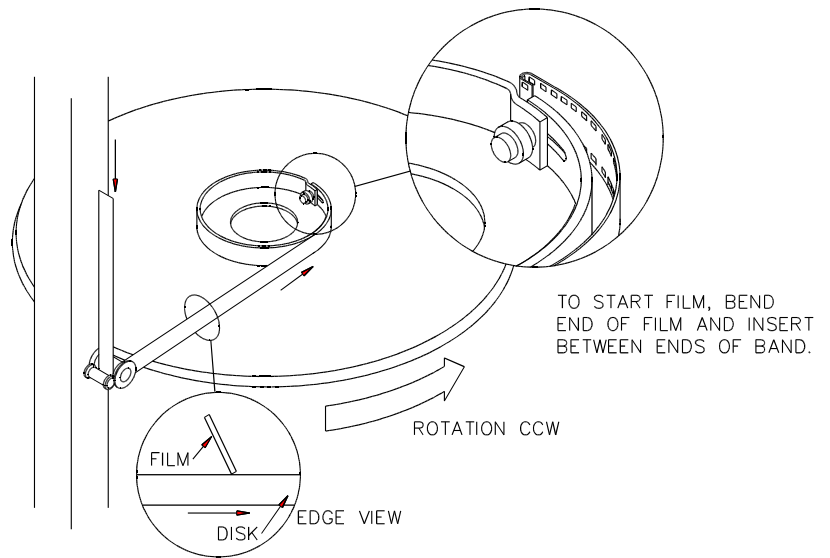

Figure 6
5. Refer to the threading diagram on page 22 and thread the film through the Take-up carriage to the **Rewind** platter. Hook the film into the center ring on the **Rewind** platter as shown in Figure 6. Be sure the angle of the twist on the film is correct.